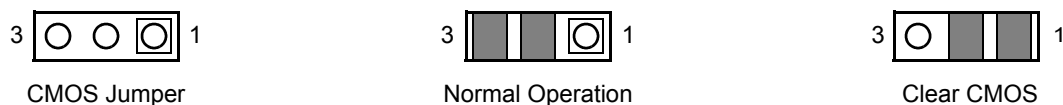

Figure 3.1 – CMOS Jumper
- B) Use the jumper cap to short pins 1 and 2 for three seconds, as shown in Figure 3.1.